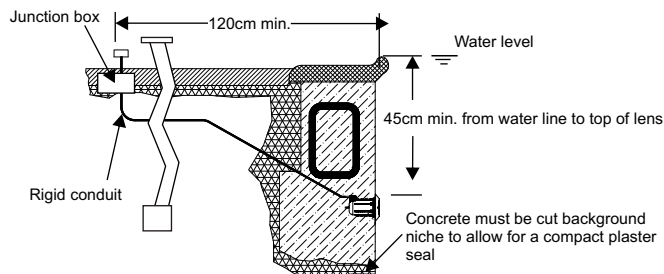

Figure 3
- Make sure the voltage is 12V and the terminal box is at least 120cm from the poolside (Figure 3).
- Upon installation, top of the light must be at least 45cm from water surface (Figure 3).